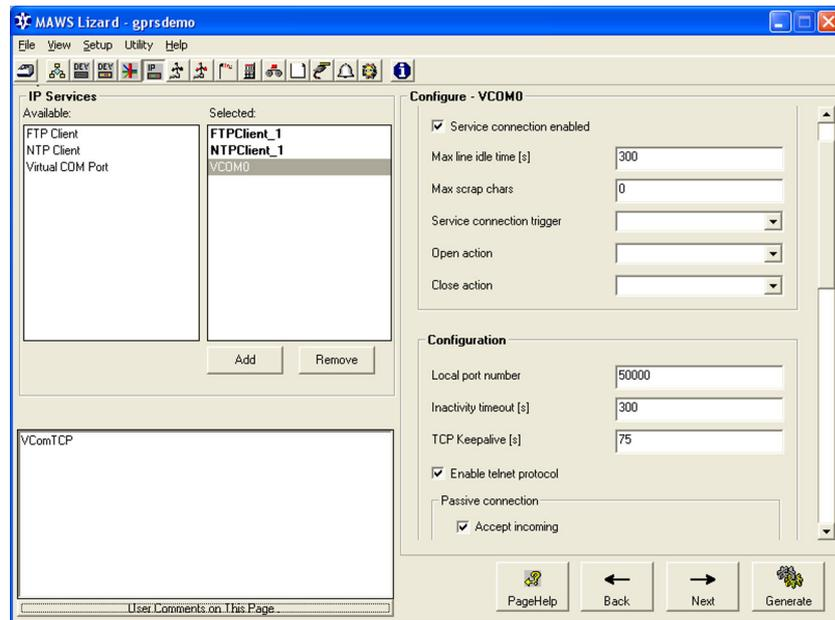

Figure 146 Configuring Virtual COM Port for Service Access
5. In the **IP Services** view, add and configure a virtual COM port for service access as shown in Figure 146 on page 306.